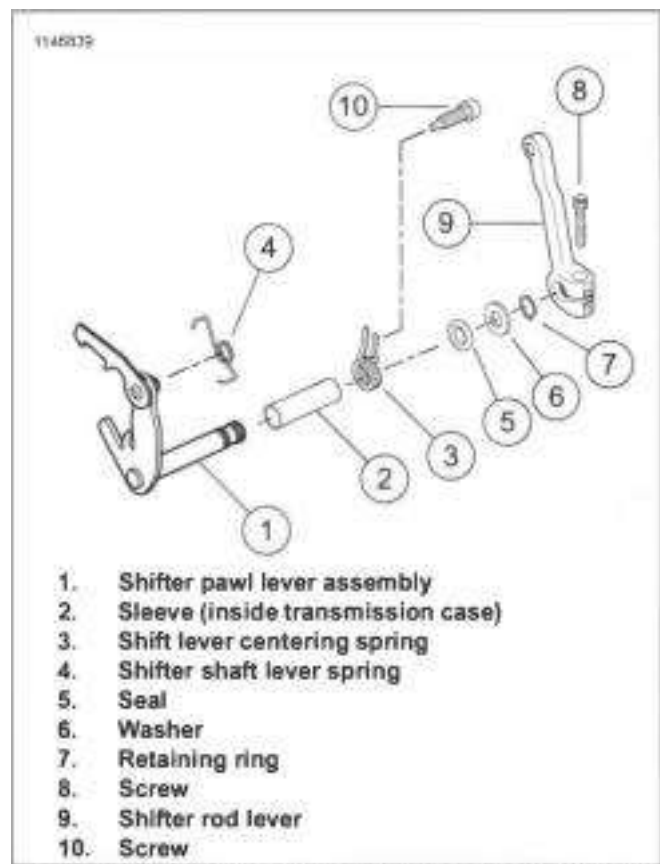

Figure 5-82. Shifter Arm and Pawl Assembly (Typical)
1. See Figure 5-82 . Remove shifter rod lever.
- a. Remove pinch screw (8).
- b. Remove shifter rod lever (9) from the shifter pawl lever assembly (1 ).
- a. Remove retaining ring (7), washer (6) and seal (5).
3. Inspect sleeve (2) in transmission case.
2. See Figure 5-82. Inspect the shifter pawl lever assembly (1) for wear. Replace assembly if pawl ends are damaged. Replace centering spring (3) if elongated.
3. Inspect the shifter shaft lever spring (4). Replace if the spring fails to hold the pawl on the cam pins.
1. See Figure 5-82 . Verify that sleeve (2) is in transmission case bore.
2. Install screw (10) into side of transmission case. Tighten.
8. See Figure 5-82 . Install shifter rod lever (9).
- a. Install pinch screw (8).